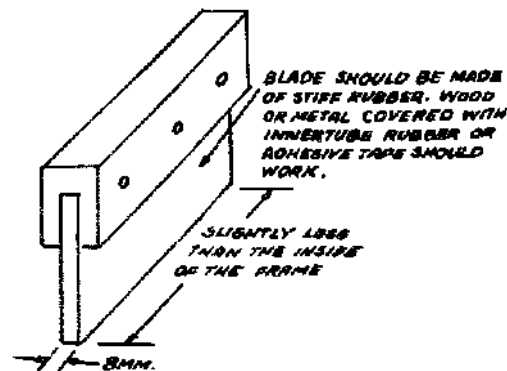

FIGURE 3. A SQUEEGEE CAN BE MADE SIMPLY IF NONE ARE AVAILABLE.
3. Make a squeegee (see Figure 3).